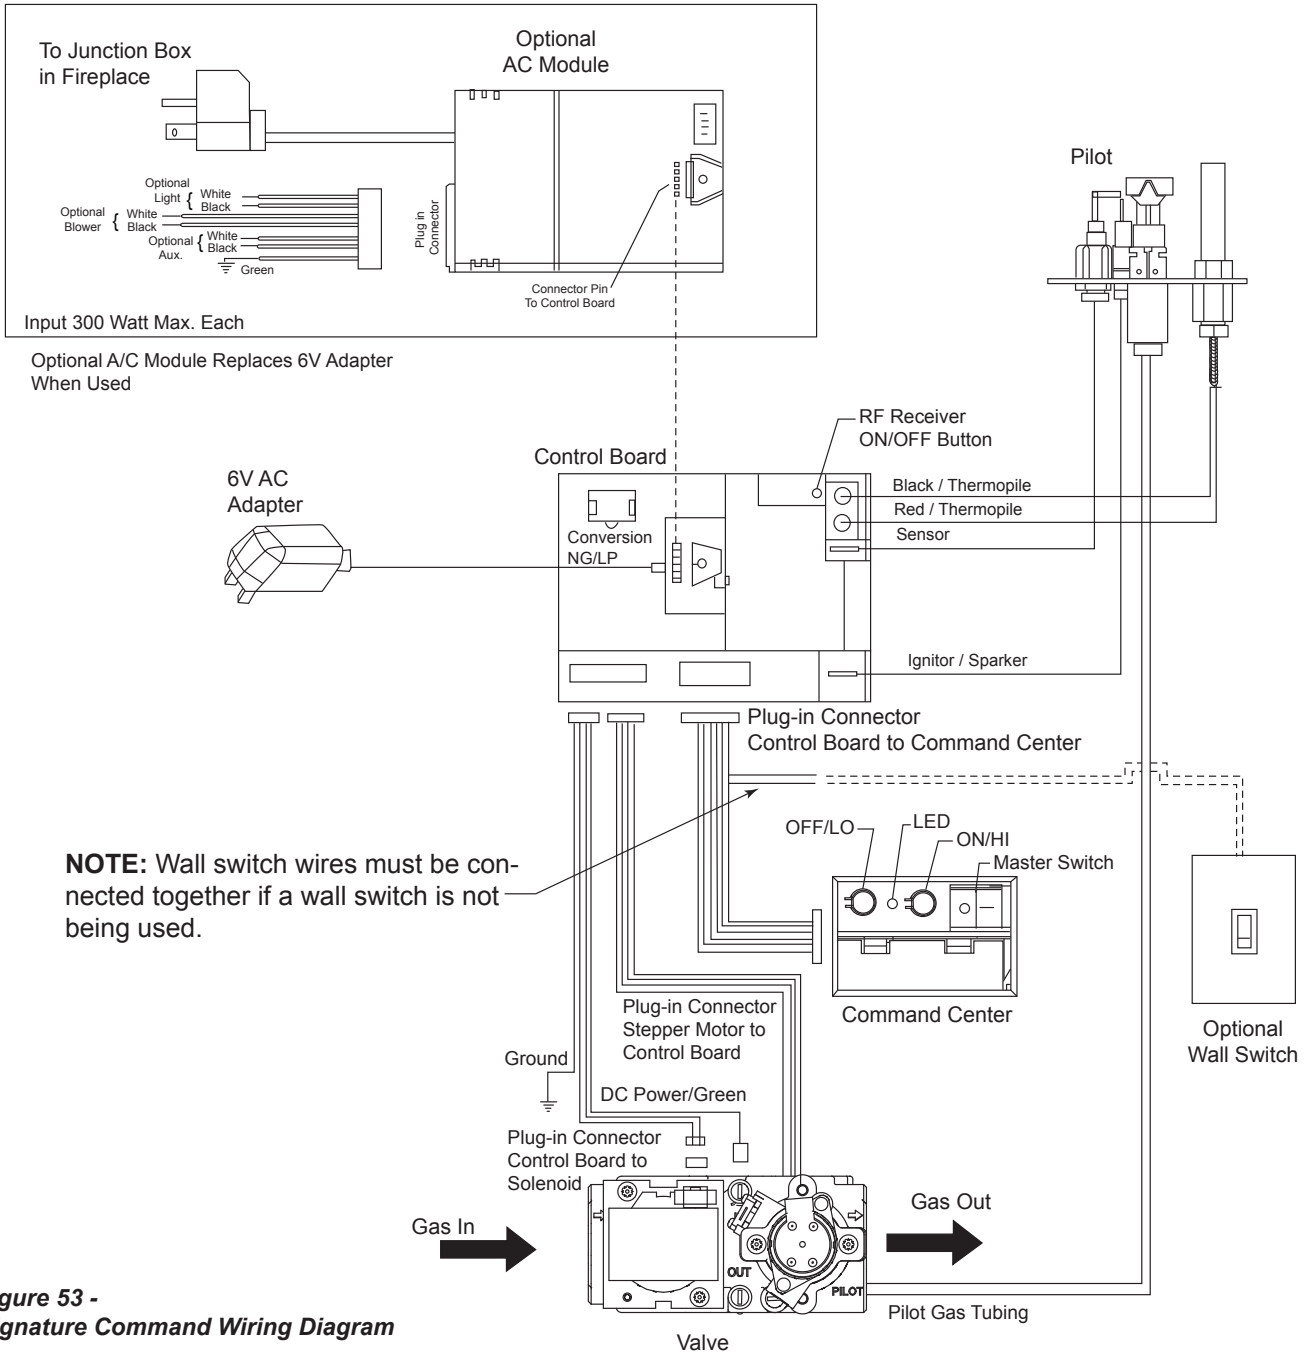

Figure 53 - Signature Command Wiring Diagram
The wall switch wire connection is located off the 2 ft. wire harness from the control box to the command center. *Figure 53*. The connection is labeled “Wall Switch”. Unplug the male and female connectors and connect the two (2) low voltage wires provided. Run wire to desired location on wall. Up to 50 ft. of 18 ga. wire may be used if necessary. Attach wires to wall switch. Mount the wall switch in to junction box and screw on cover.